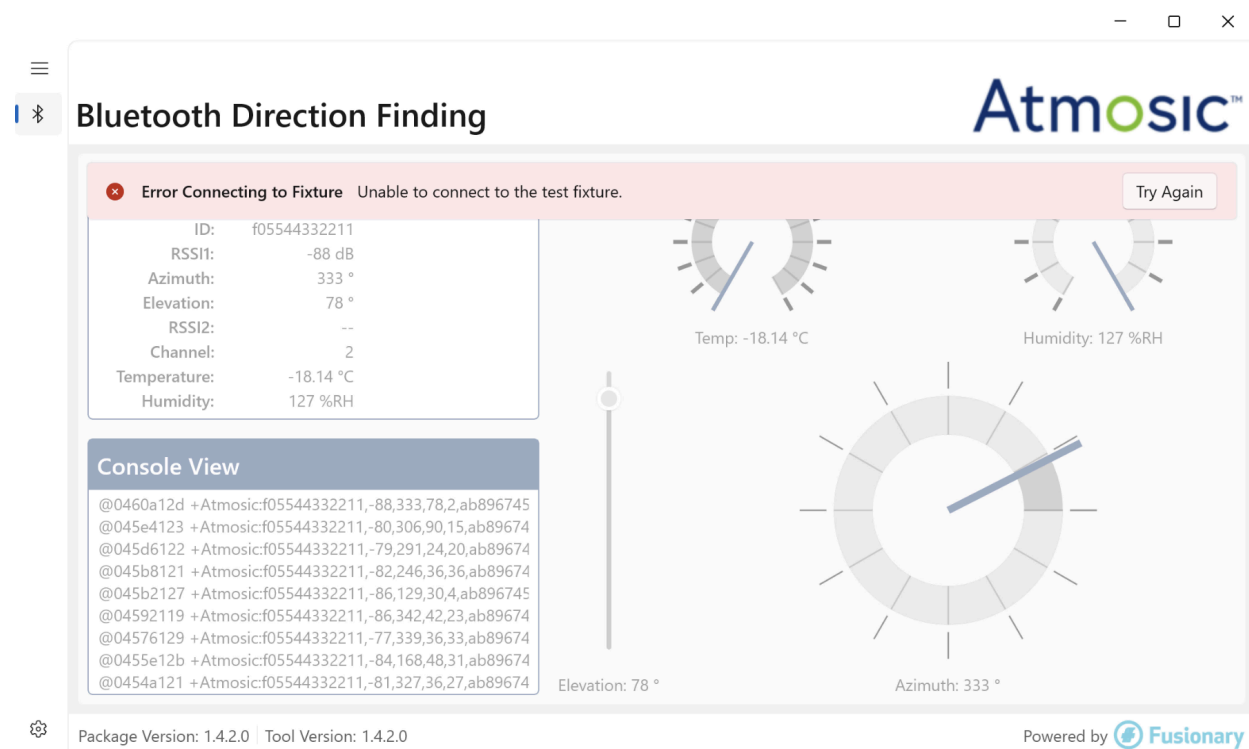

Figure 6 - Error Connecting to Fixture Message
- Figure 6 - Error Connecting to Fixture Message
- 6) After the GUI launches, it will try to communicate with the Locator which has not been plugged in yet resulting in an error message, see Figure 6.